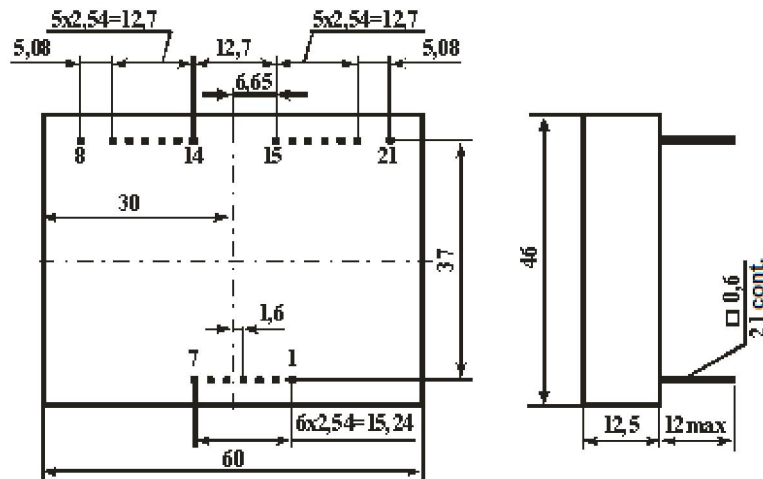
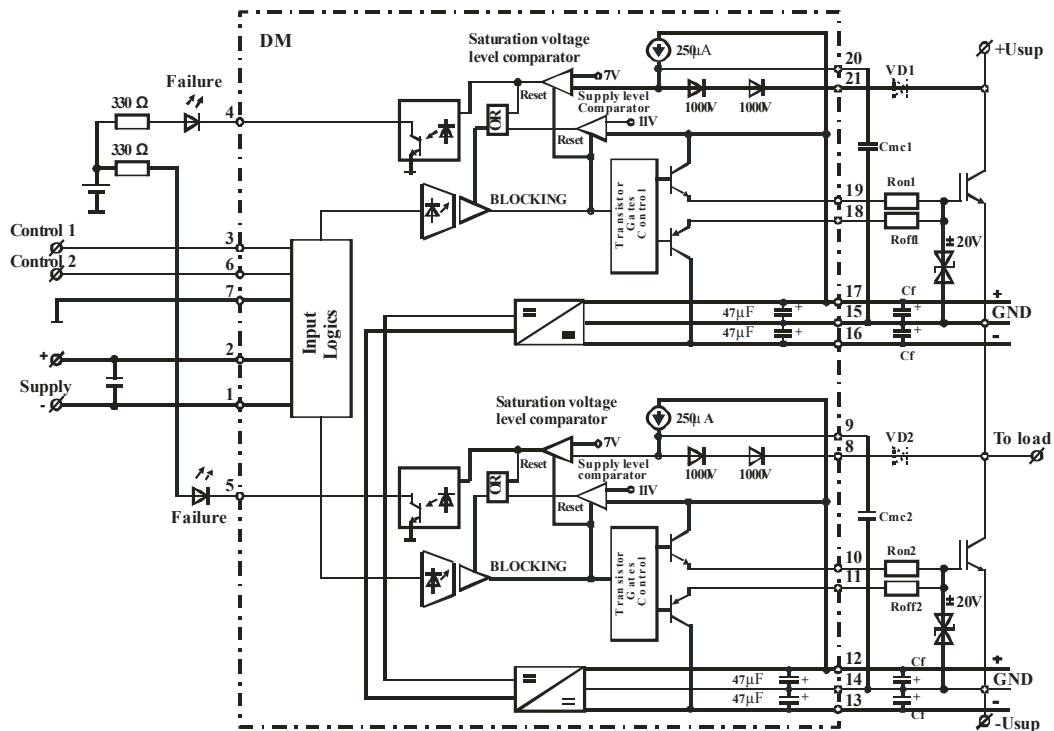

Figure 1 – Overall driver drawing
Figure 2– Functional circuit and driver turn-on circuit
3.1 Overall drawing is shown at Figure 1, functional circuit and driver turn-on circuit are represented at Figure 2.
**MC1, MC2** – collector connection outputs (drain) of controlled transistor. Outputs are intended for voltage fall controlling (saturation protection) on the transistor. Meanwhile maximum protection operation threshold value is equal to 5.8 V (if the external elements are not set). Protection operation threshold is regulated by external elements (Zener diodes and diodes); voltage fall on Zener diodes and diodes at current 250  $\mu$ A is deducted from the maximum voltage (5.8 V). For instance, if Zener diode with rated Zener voltage 3.3 V and two diodes with voltage fall 0.7 V at current 250  $\mu$ A are set sequentially (ref. to recommended connection circuit at Figure 2), then protection operation threshold will be equal to  $5.8 - 3.3 - 2 \times 0.7 = 1.1$  V.
**OUToff1, OUToff2, OUTon1, OUTon2** – outputs meant for connection of controlled transistors gates. The recommended connection circuit is shown at Figure 2. Voltage limiter should be set with rated breakdown voltage not less than 16 V and not more than maximum-permissible gate voltage. It is recommended the limiter with rated breakdown voltage 18 V. It is allowed to install the Zener diodes with corresponding rated Zener breakdown. If the controlled transistor is installed at a remote distance from the driver, then the limiter should install directly to transistor.